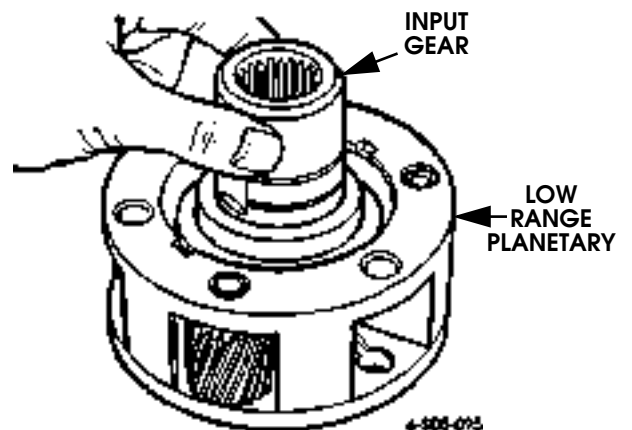

Figure 5-129: Input Gear Installation
- b. Install rear thrust washer in planetary. Be sure washer tabs are aligned in planetary notches as shown (Figure 5-129)